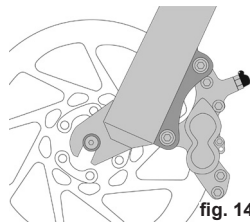
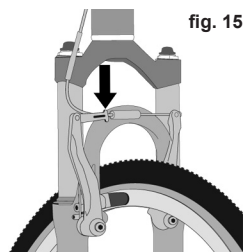

fig. 14
fig. 15
(1) If your bike has rim brakes, disengage the brake's quick-release mechanism to increase the clearance between the tire and the brake pads (refer to **Page 26, Section 4: "Tech", subsection C: "Brakes", figs. 14 through 18**).
(2) If your bike has rim brakes, disengage the brake's quick-release mechanism to increase the clearance between the wheel rim and the brake pads (refer to **Page 26, Section 4: "Tech", subsection C: "Brakes", figs. 14 through 18**).
(3) On a derailleur gear system, pull the derailleur body back with your right hand.
3. Some bicycle brakes, such as disc brakes (fig. 14) and linear-pull brakes (fig. 15), are extremely powerful. Take extra care in becoming familiar with these brakes and exercise particular care when using them.
Most rim brakes have some form of quick-release mechanism to allow the brake pads to clear the tire when a wheel is removed or reinstalled. When the brake quick-release is in the open position, the brakes are inoperative. Ask your authorized retailer to make sure that you understand the way the brake quick-release works on your bike (see **figs. 15, 16, 17 & 18**) and check each time to make sure both brakes work correctly before you get on the bike.